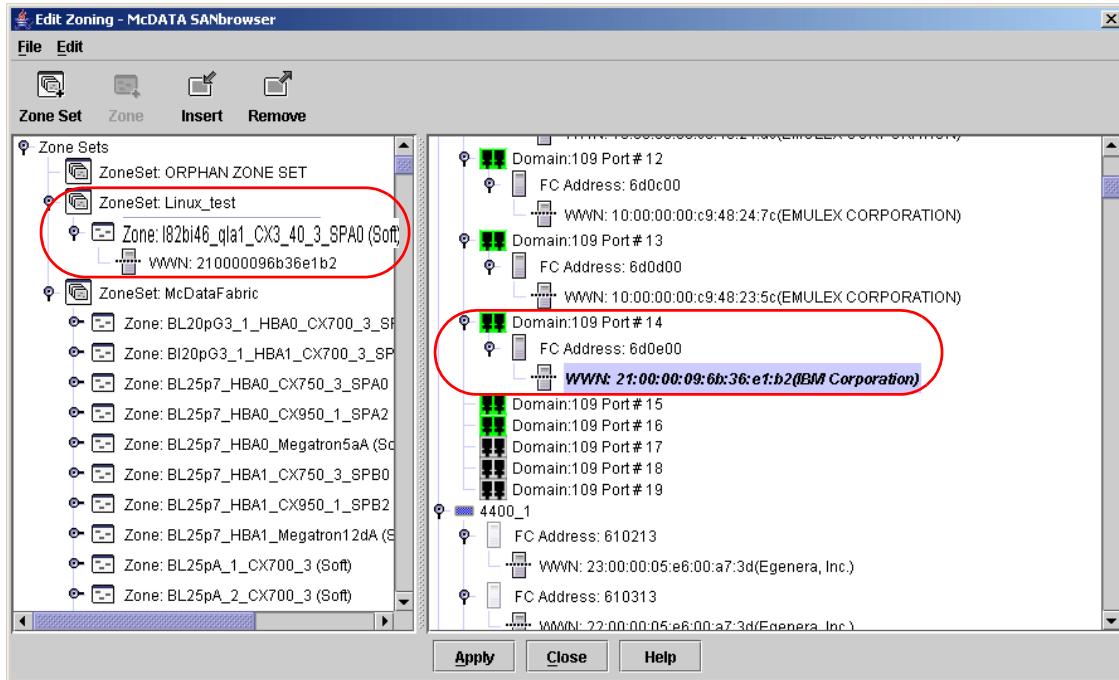

Figure 8-24 182bi46_qla1_CX3_4D_3_SPA0 zone window
15. In the right panel, add the QLogic HBA to Zone: 182bi46_qla1_CX3_4D_3_SPA0. Hold down mouse button and drag the member to the zone. In our example, this is WWN: 21:00:00:09:6b:36:e1:b2(IBM Corporation). You will see a window similar to Figure 8-24.